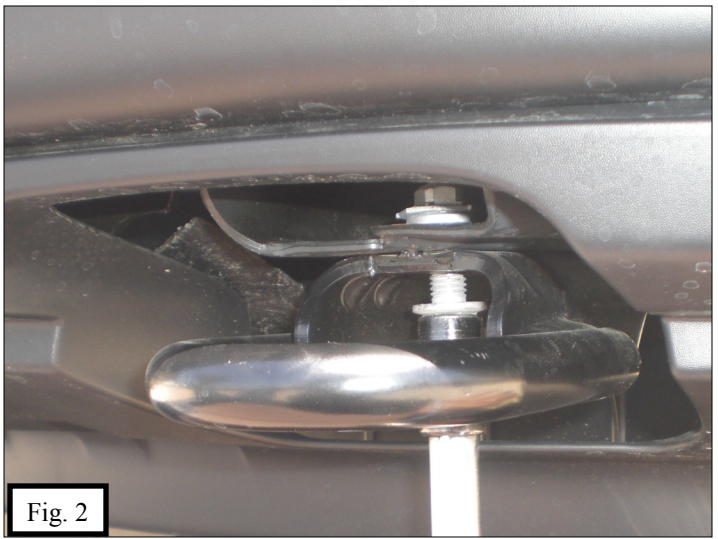

Fig. 2
3. Remove factory tow hooks from the front of vehicle. *Note: tow hooks cannot be reused with this application.* (Fig.2)